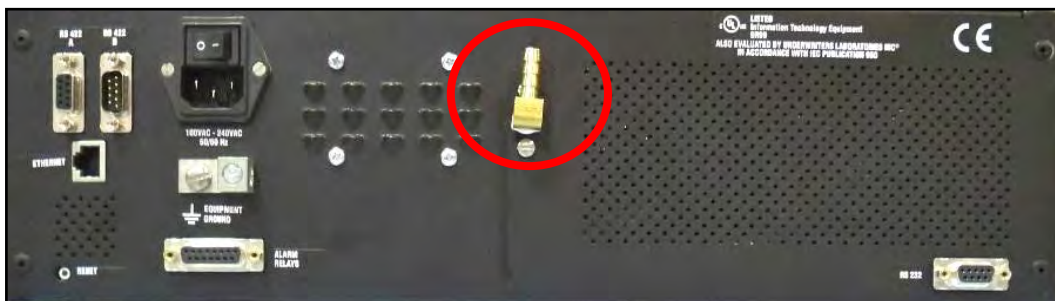

Figure 4. ADH NETCOM REAR PANEL
When connecting an equipment or transmission line to the ADH NETCOM automatic air dehydrator, it is first necessary to install the proper fitting onto the port on the back of the unit. Refer to Figure 4. As described on the Inventory page of this manual, two types of brass fittings are supplied with the unit. They are not interchangeable. The first type, Part Number 18198, connects a 1/8" NPT to a 1/4" barbed fitting. The second type of fitting, Part Number 23428, connects a 1/8" NPT to a 3/8" barbed fitting. Though not required, it is recommended to use the second type of fitting, the one with the 3/8" barbed fitting, on runs longer than one hundred (100) feet or about 30 meters or when using the NETCOM as an input to an ASM[®]-1 Smart Manifold[™] Automated Air Distribution Manifold. Directions for the proper installation of both types of fittings are the same.